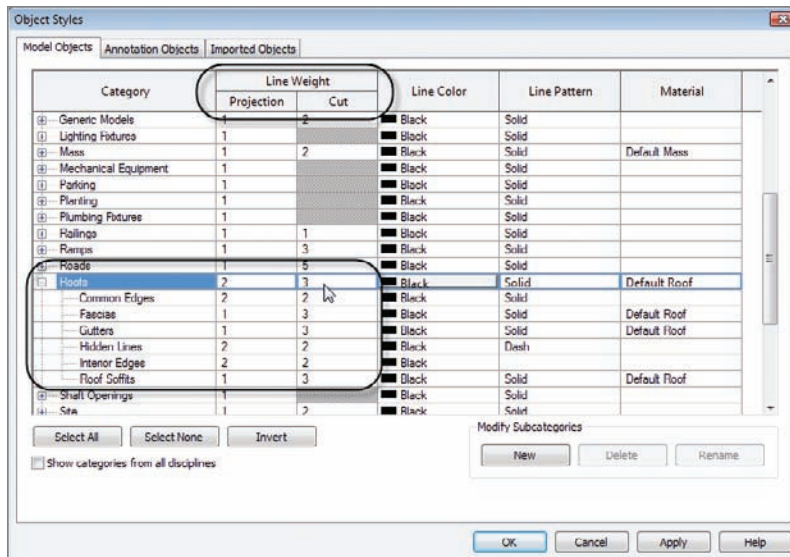

FIGURE 12.2 Changing the object line weights
3. In the Object Styles dialog, you will see a list of every object category available in Revit. The first items we want to change are the roofs. In the category column, scroll down until you see Roofs, as shown in Figure 12.2.
4. In the Roofs row, change the Cut value to 3, as shown in Figure 12.2.
8. Change the Cut value for Roof Soffits to 3 (again, see Figure 12.2).